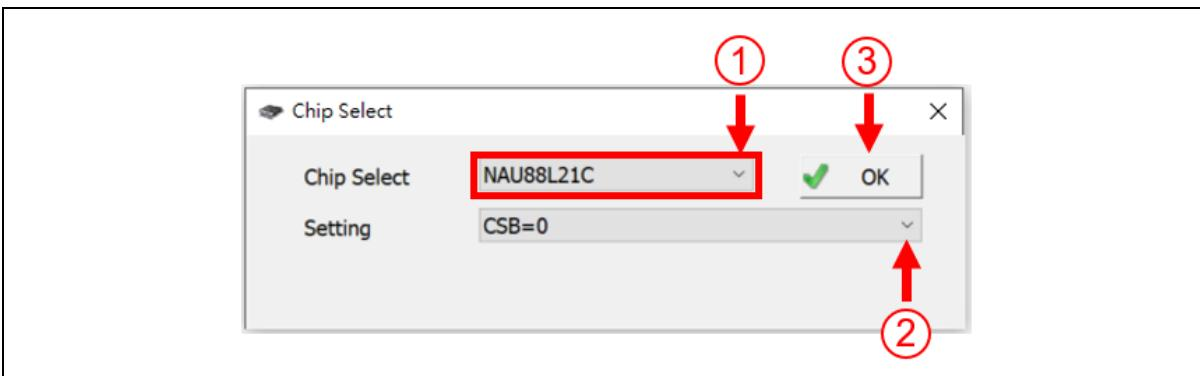

Figure 3-4 NuvotonAudioGUI Operating Step (1)
1. Open NuvotonAudioGUI, choose the corresponding IC Part Number, then confirm the CSB setting (NL-NAU88L21C default is 0), and click [OK], as shown in Figure 3-4.